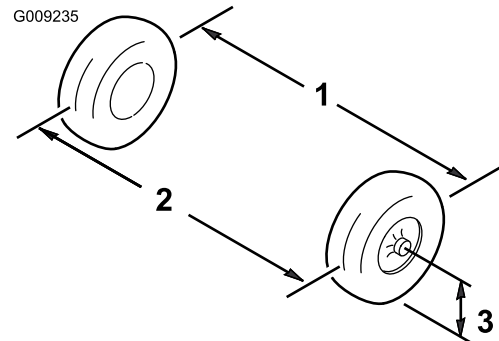

Figure 53
1. Measure the distance between both of the front tires at the axle height at both the front and rear of the front tires (Figure 53).